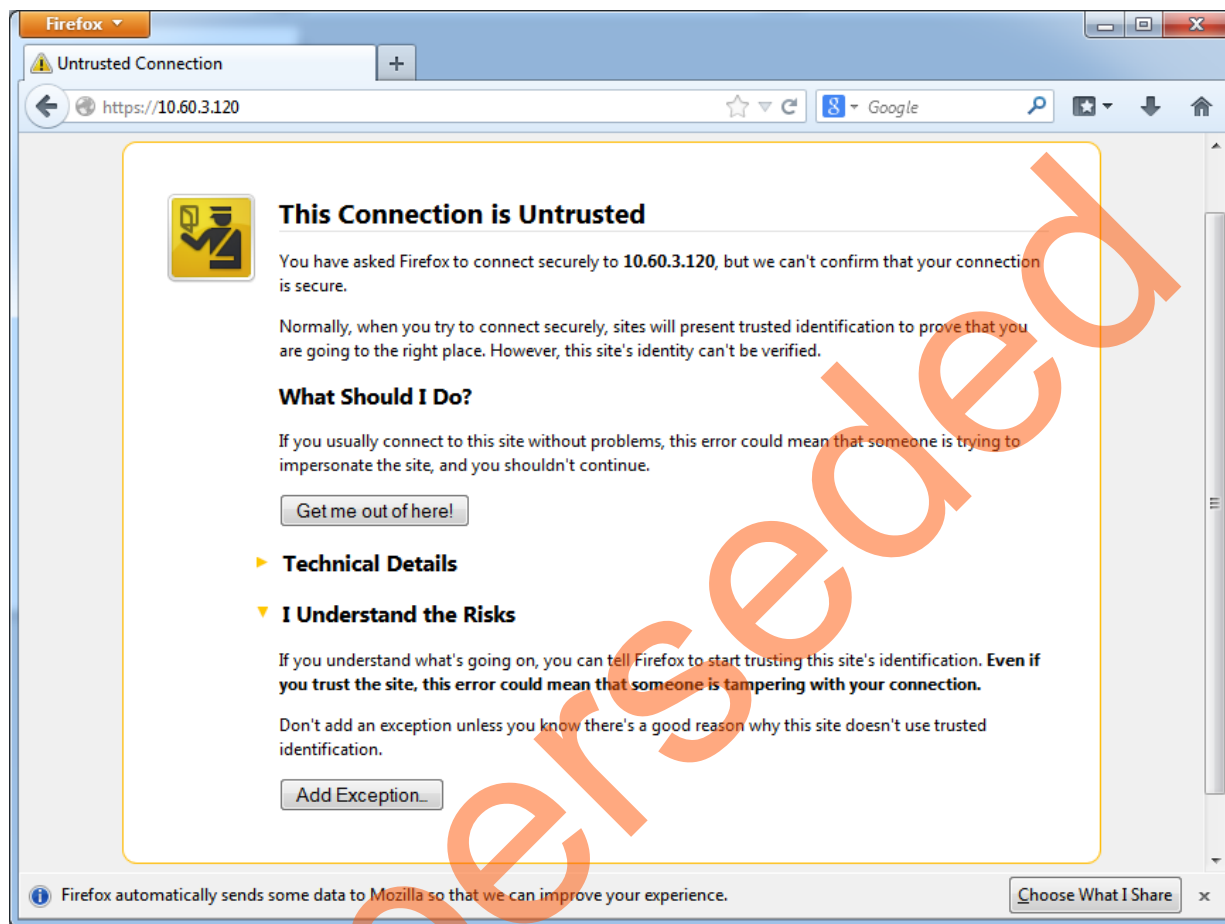

Figure 15 • Mozilla Firefox showing Warning Message
1. Open the Mozilla Firefox browser and type the URL (for example, <https://10.60.3.120>) in the address bar. The browser shows a warning message as shown in Figure 15.